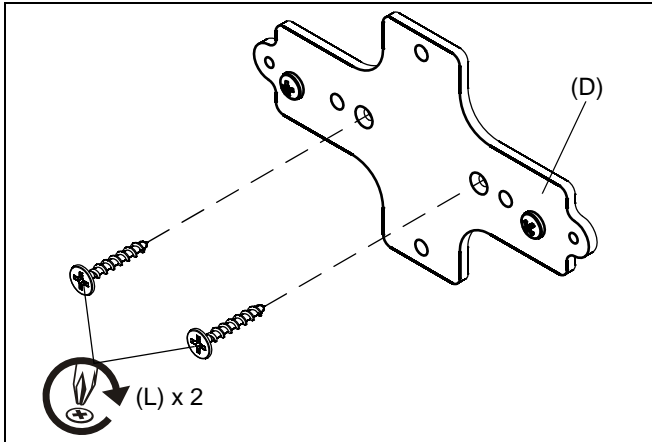

Figure 1
1. Attach bracket (D) to drywall using two #6 x 1" drywall screws (L). (See Figure 1)